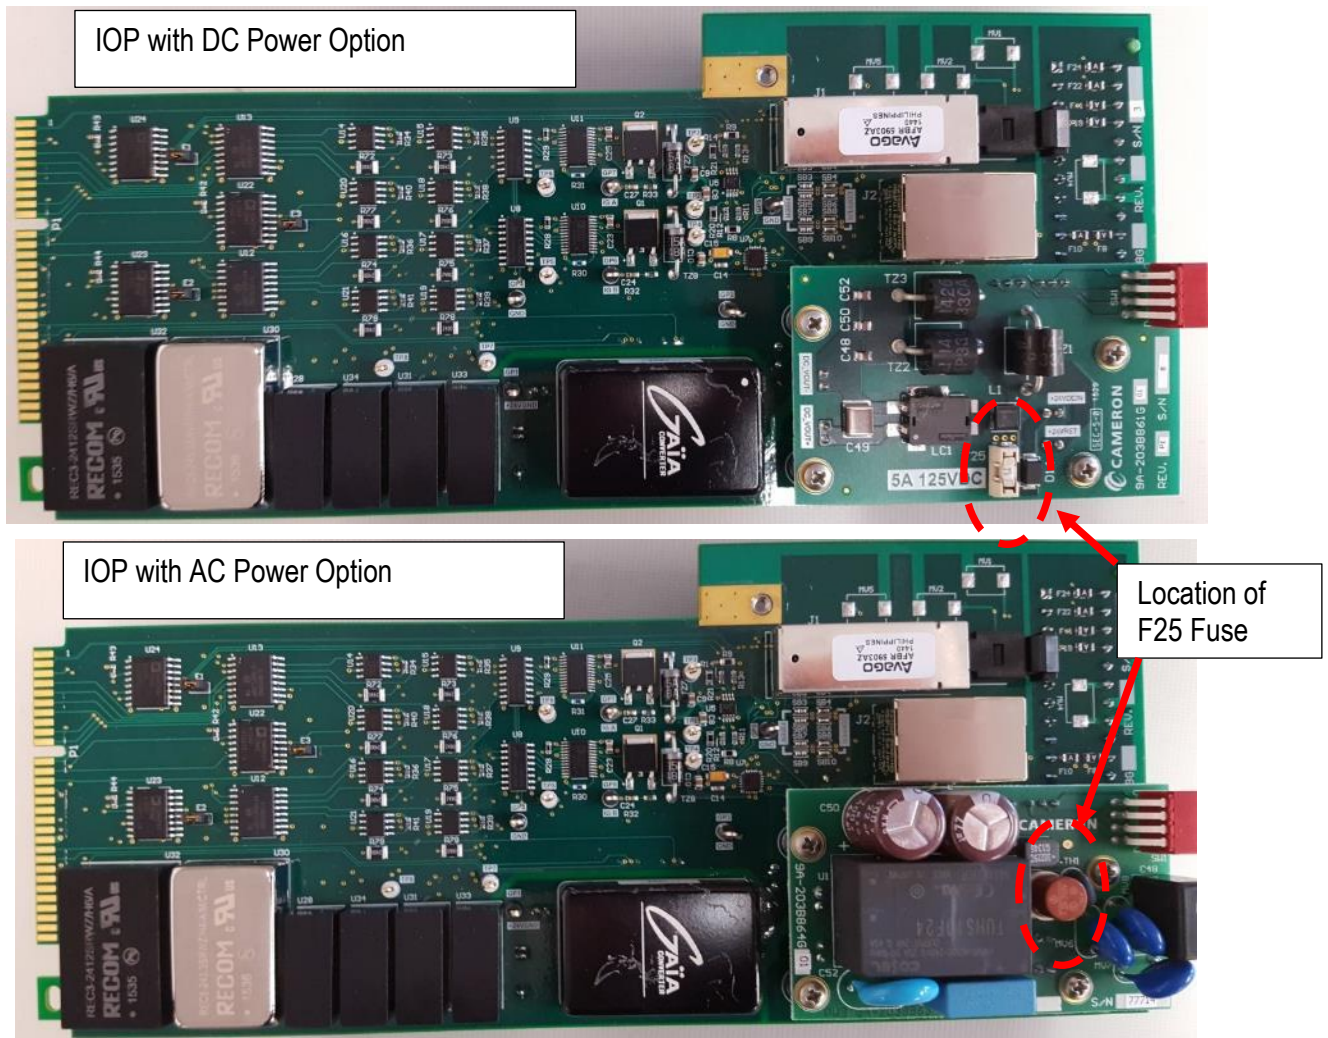

Figure 7.3 Location of IOP/F25 Fuse
5. Locate the IOP/F25 fuse. (Note – the fuse protects the electronics from errant wiring of power to 120/230 VAC). The F25 fuse is on the same side of the IOP board as the plug-in connectors, near the power inputs (TB1). Refer to Figure 7.3 below.